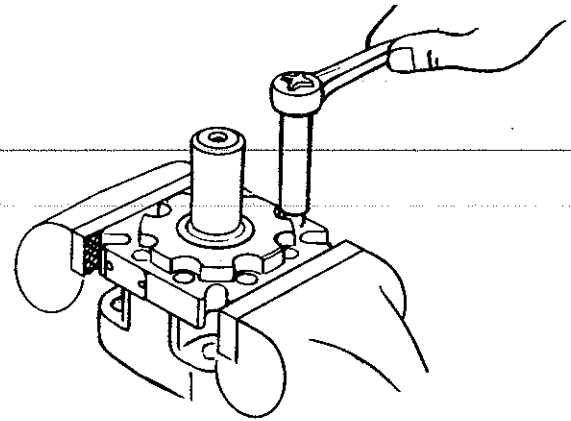
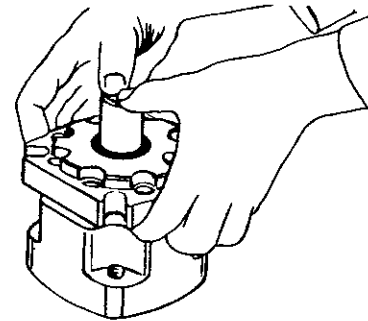

Figure 7
Figure 8
- 16 Clamp bearing housing in vise as shown in Fig. 7. Loosen 8 cap screws. Place housing on clean flat surface. Then remove cap screws, washers (discard washers, they're not required for reassembly), and mounting flange, see Fig. 8.